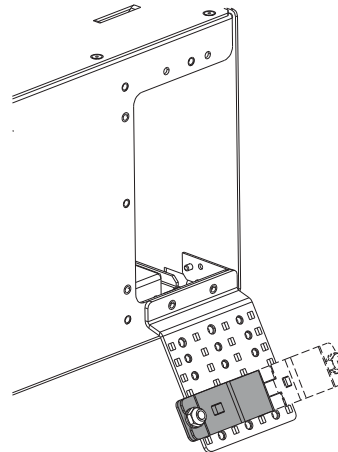

Figure 7 — Install Strain-relief Bracket Directly to Housing
Step 2: If installing outside plant cable, remove the membrane from the appropriate entry grommet (Figure 7).
Step 3: If installing indoor cable, remove appropriate cable entry plate as shown in Figure 7.
Step 4: Attach the UCC clamshell to the strain-relief bracket as shown in Figure 6 and Figure 7 to allow installation of a second UCC if necessary.